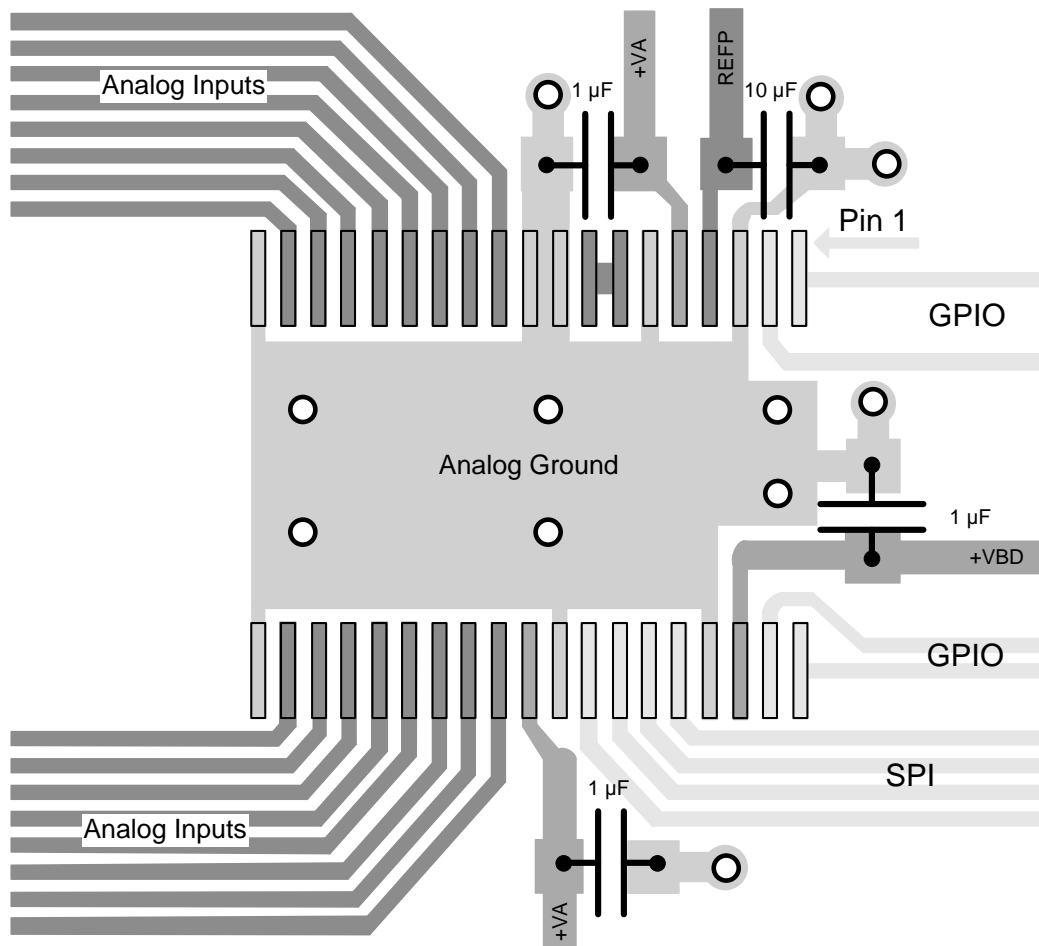

Figure 64. Layout Example
- The power sources must be clean and properly decoupled by placing a capacitor close to each of the three supply pins, as shown in Figure 64. To minimize ground inductance, ensure that each capacitor ground pin is connected to a grounding via by a very short and thick trace.
- The REFP pin requires a 10- $\mu\text{F}$  ceramic capacitor to meet performance specifications. Place the capacitor directly next to the device. This capacitor ground pin must be routed to the REFM pin by a very short trace, as shown in Figure 64.
The full-power bandwidth of the converter makes the ADC sensitive to high frequencies in digital lines. Organize components in the PCB by keeping digital lines apart from the analog signal paths. This design configuration is critical to minimize crosstalk. For example, in Figure 64, input drivers are expected to be on the left of the converter and the microcontroller on the right.